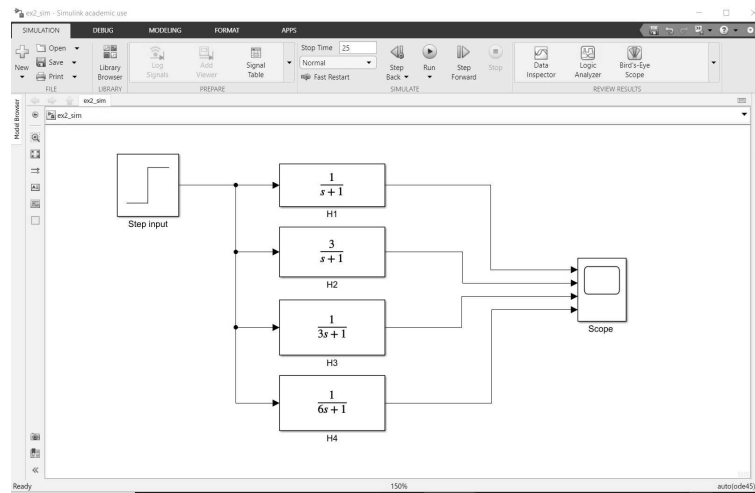

Figure 3: Simulink model
- (o) Connect all inputs to the step source and all outputs to the *Scope*. The model should be similar to Figure 3